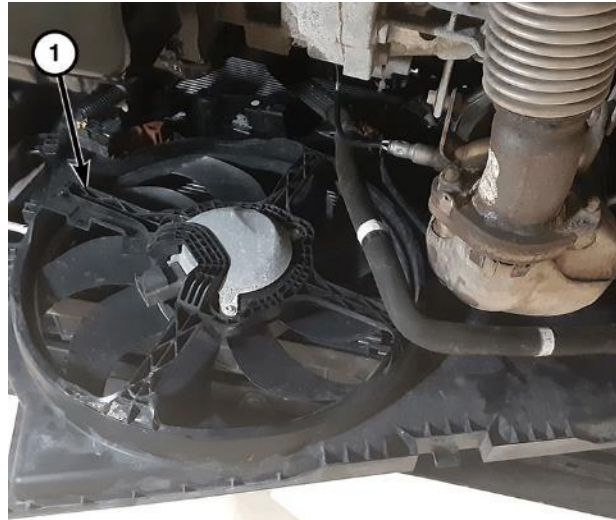

Figure 10 – Cooling Fan Module
13. Remove the cooling fan module (1) from the bottom of the vehicle (Figure 10).
17. Install the **NEW** cooling fan module (1) to the vehicle from the bottom (Figure 10).